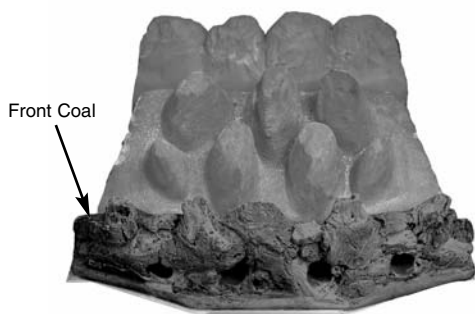

Fig. 41
3. Position the front coal on the front coal retainer, making sure that the back edge is pushed up against the front of the burner strip (Fig. 41).